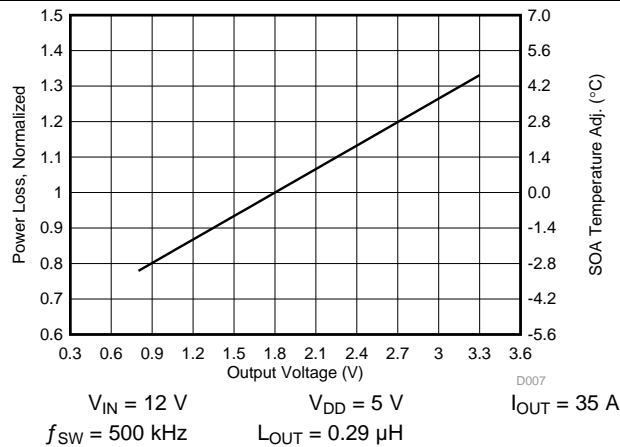

Figure 10. Normalized Power Loss vs Output Voltage
- Normalized power loss for output voltage ≈ 1.04 (Figure 10)
- SOA adjustment for output voltage $\approx 0.62^\circ\text{C}$ (Figure 10)